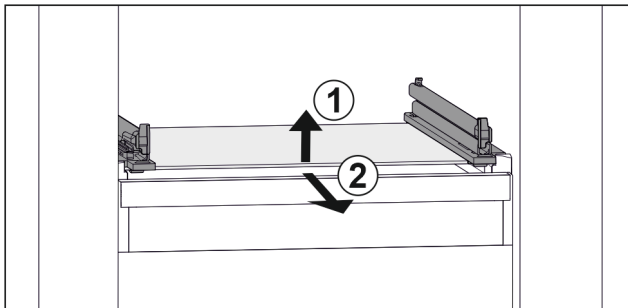

Fig. 146 Example illustration of glass shelf
- Lift glass shelf at the front. *Fig. 146 (1)*
- Take out glass shelf to the front. *Fig. 146 (2)*